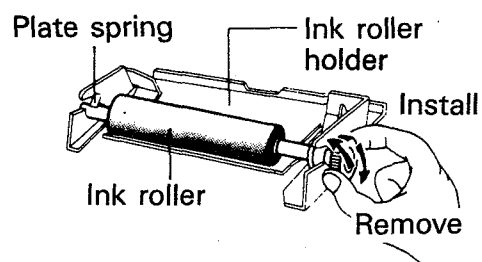

Fig.2
3. Remove the ink roller from the ink roller holder and install a new ink roller instead. (Fig.2)